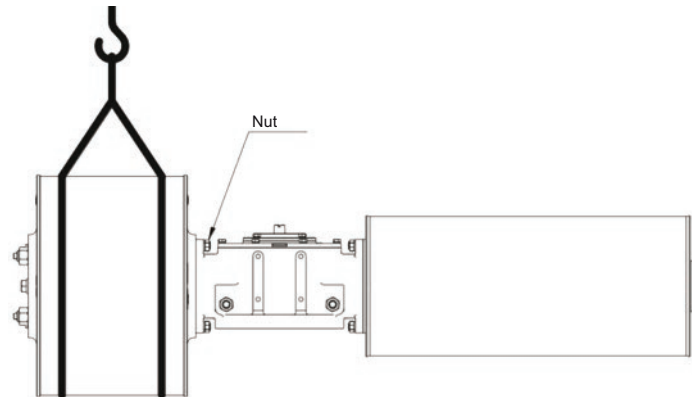

Figure 24
5. Perform the necessary lifting measures for the cylinder module, refer to Figure 24.
1. Lift the cylinder module (including the o-ring between the modules) to the mounting surface of the drive module (as shown in Figure 24), and tighten the nut;